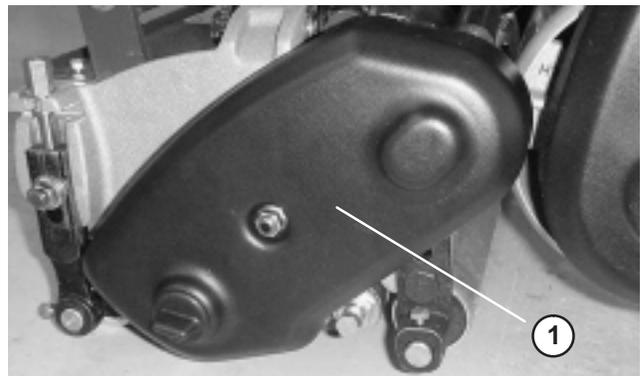

Figure 36
- Remove the belt cover mounting fasteners and belt cover to expose belt (Fig. 36).